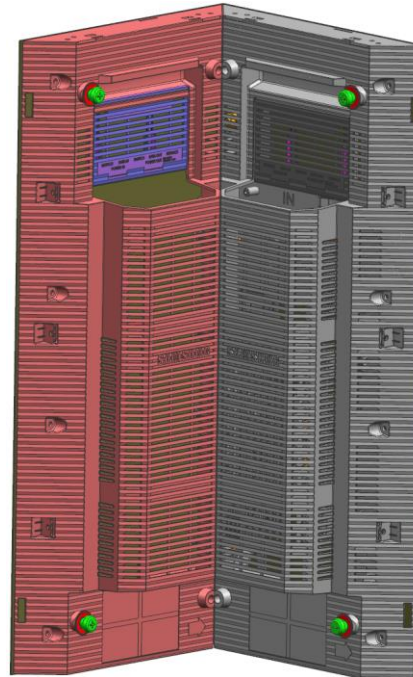

Fig 22. Rear Panel during L-type Installation
- In the joint where two cabinets are met (L-type corner), do not use the BOLT ETC but the outer BOLT-ETC. (Fig. 22)